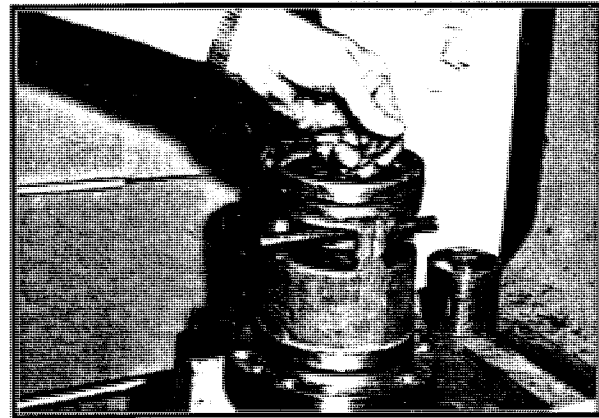

Figure 3-15 Removing Retaining Ring
4. Remove spirolox retaining ring (Item 1) from cylinder (Item 16). Seat ring (Item 2) and O-ring (Item 3) may now be removed. Reference Figures 3-15, 3-16 and 3-17.